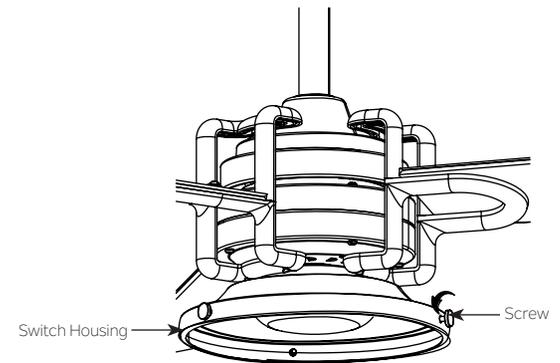

Fig. 22
Step 3. Loosen three screws on the switch housing for installing glass. (Fig. 22)